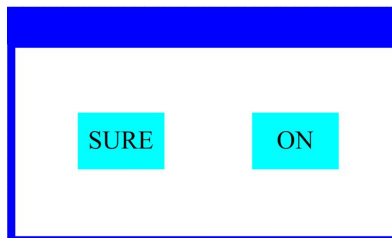

Figure 5 Dialog of confirm
- When the parameter is a key item, click corresponding item, a dialog shown in Figure 5 will be popup ask for the confirm. Click ‘sure’ to confirm.